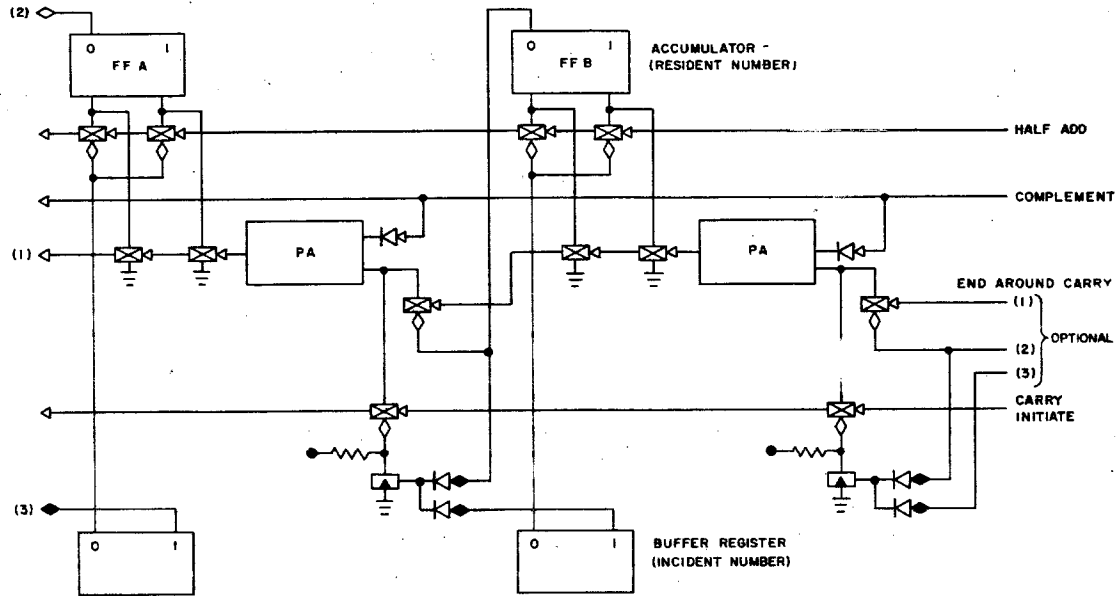

Figure 28 Parallel Adder
Parallel adders may be used to add two binary numbers. The augend is called the resident number and is stored in the accumulator register. The addend, or incident number, is stored in the incident register. The sum appears in the accumulator. R series Type R201, flip-flops can be used as shown in Figure 28.
The 1's complement number system is easiest to implement. To subtract a number from the accumulator, the steps are (1) complement the incident number, (2) half-add, and (3) carry. With this number system it is necessary to use the end-around-carry shown in Figure 28. One's complement subtraction may also be performed by (1) complementing the accumulator, (2) half-add, (3) carry, and (4) re-complementing the accumulator.